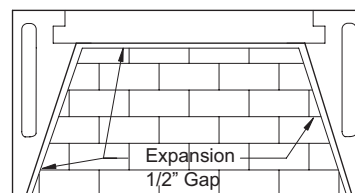

FIGURE 62
3. Start the firebrick at the front edge of the floor of the Isokern firebox, proceeding inward toward the back. Let the floor brick gap approximately 1/2" off the back wall and side walls. This air space allows heat expansion of the firebrick and is to be left empty of mortar. **(Figure 62)**